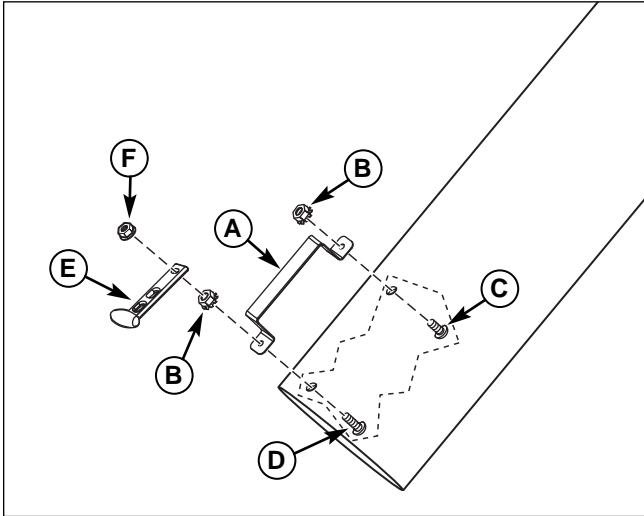

**Figure 8. Install Lower Chute and Pin to Boot**
1. Insert the head of pin (A, Figure 8) through front hole of lower chute (D). Secure with 1/4-20 x 5/8 carriage bolt (B) and 1/4-20 lock nut (C) as shown.
2. Install the rod (H) to lower chute (D) using 5/16-18 x 1 capscrew (J) and 5/16-18 locknut (G) for front holes. Use 5/16-18 x 1-1/4 capscrew (I) and 5/16-18 locknut (G) as shown. Tighten hardware.
3. Install the rubber strap (F) onto capscrew (I) securing with 5/16-18 locknut as shown.